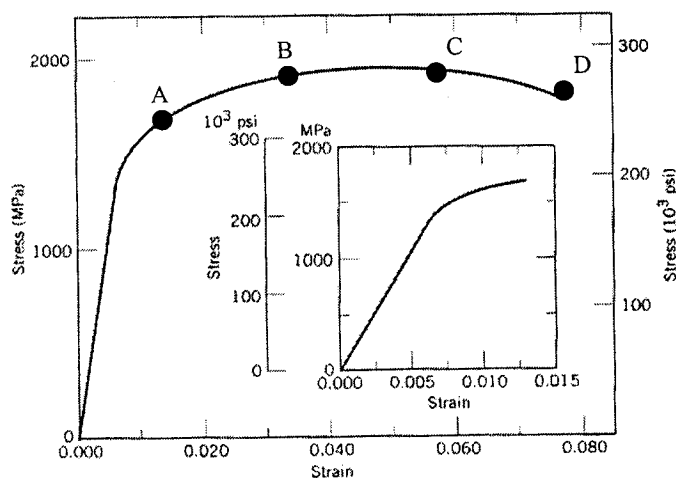

Figure 2
- 2 (a) Consider the engineering stress-engineering strain curve for a cylindrical steel specimen shown in Figure 2. The figure also shows a detail of the initial part of the curve. Use the figure to calculate the following for the steel specimen (in SI units):
- The change in length of the specimen when it is subjected to 65,250 N tensile load if the specimen has an initial length of 80 mm. (8)
- (b) Sketch the shape of the specimen as it would be at points A, B, C and D on the curve. Define true stress and true strain. Sketch the curve in Figure 2 and show the following:
- The engineering stress-engineering strain curve if the sample was unloaded to zero load at point A and reloaded. (5)
- toughness (6)
- (d) Sketch a resolved shear stress – shear strain curve for a single crystal of a metal and explain it in the context of dislocation motion. Compare this with a typical polycrystalline stress-strain curve (such as that shown in Figure 2) and explain why its shape differs from that of the single crystal. (6)